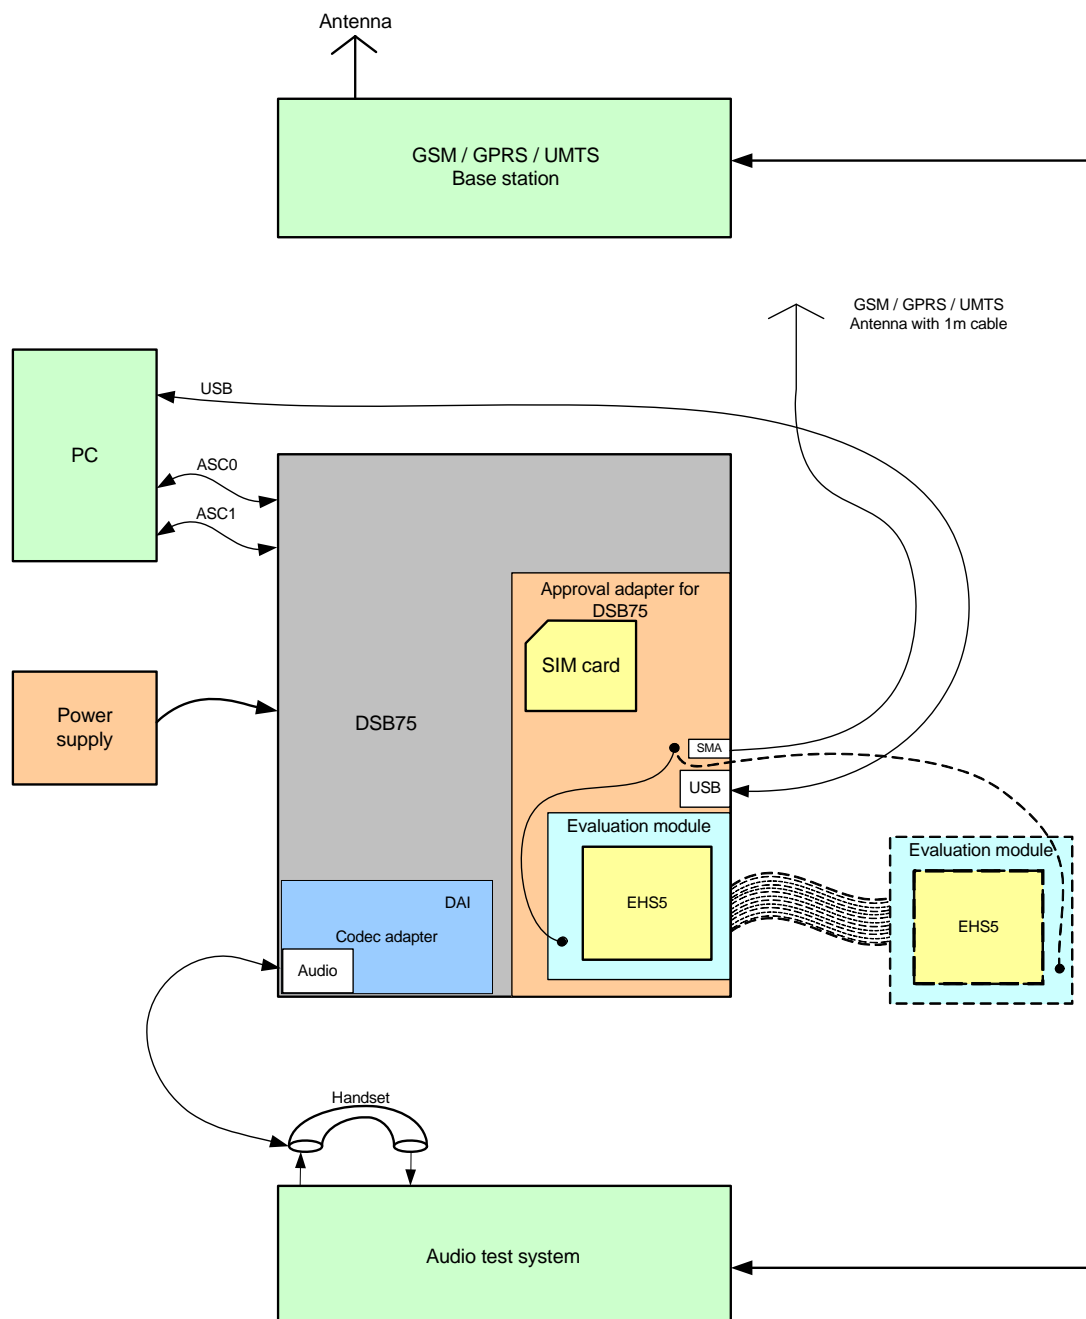

Figure 59: Reference equipment for Type Approval
1. For RF performance tests a mini-SMT/U.FL to SMA adapter with attached 6dB coaxial attenuator is chosen to connect the evaluation module directly to the GSM/UMTS/GPS test equipment instead of employing the SMA antenna connectors on the EHS5-E/EHS5-US-DSB75 adapter as shown in Figure 59. The following products are recommended: